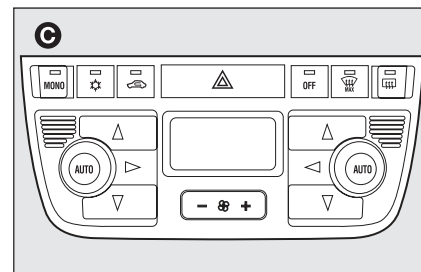

fig. 7
- ☐ with automatic two-zone climate control system **C-fig. 7**.